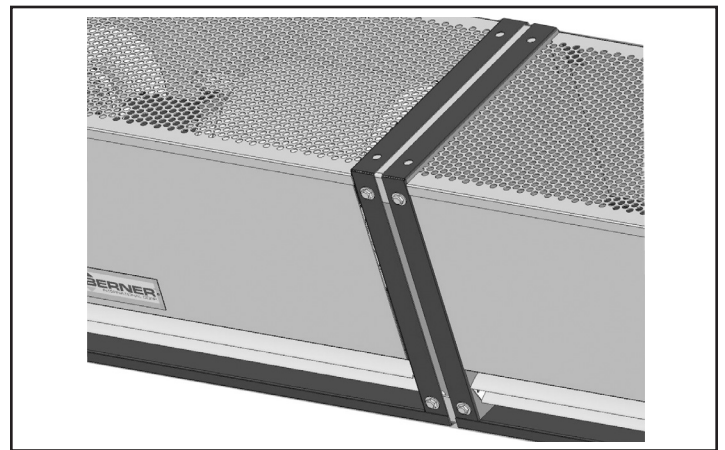

FIGURE 9 - Tandem Mounting
- D. Slide the end plate of the next unit over the brackets installed in Step C and attach using (4) additional $\frac{1}{2}$ " bolts as shown in **Figure 9.**